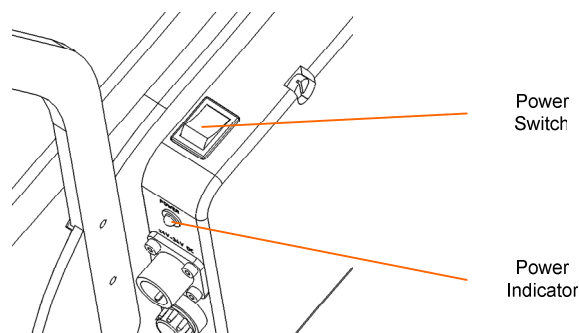

Figure 1.20: "Power" switch and indicator of the scanner.
- Turn on scanner, moving switch "Power" on its case to position «1» (Figure 1.20)
- Turn off scanner, moving switch on its case to position «0». (Figure 1.20)